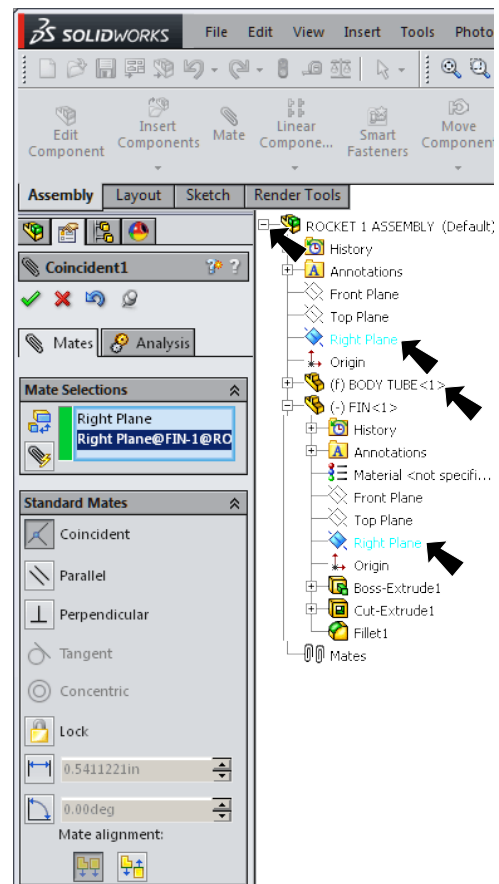

Fig. 3
Step 2. Expand the Design Tree (click +) in the top left corner of the drawing area, **Fig. 3**.
Step 3. Click **Right Plane**, **Fig. 3**.
Step 4. Expand **FIN** and click **Right Plane**, **Fig. 3**.